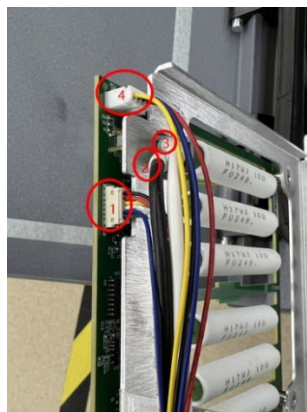

Figure 3-35 Disconnect the cable
- Disconnect the cables on the brake board as shown in Figures 3-35: